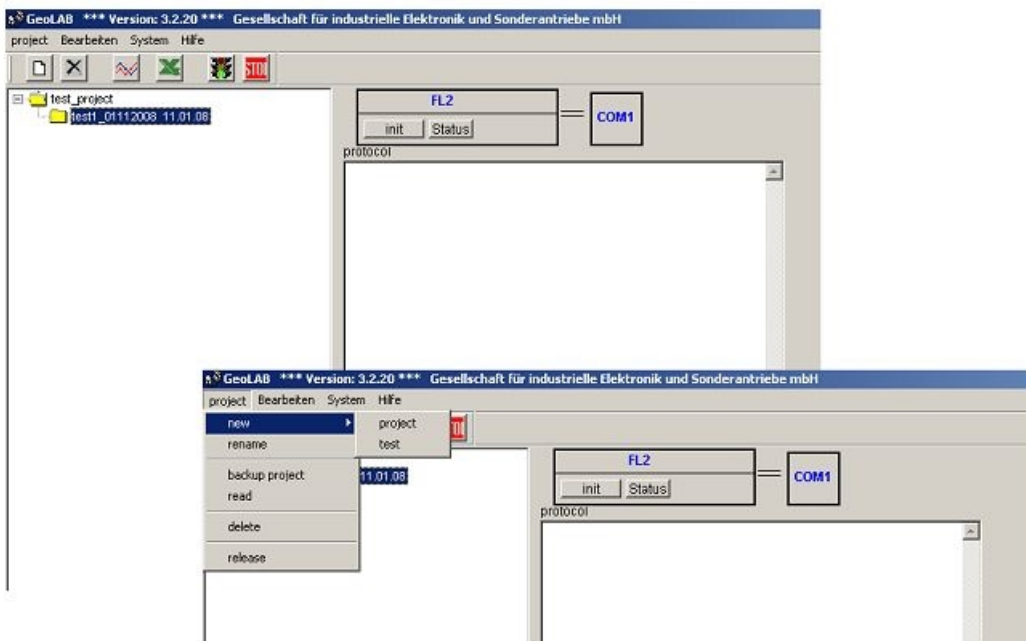

Figure 7. Giesa GeoLAB Main Control Screen.
1. Using the desktop icon, open the Giesa main control screen (Figure 7).